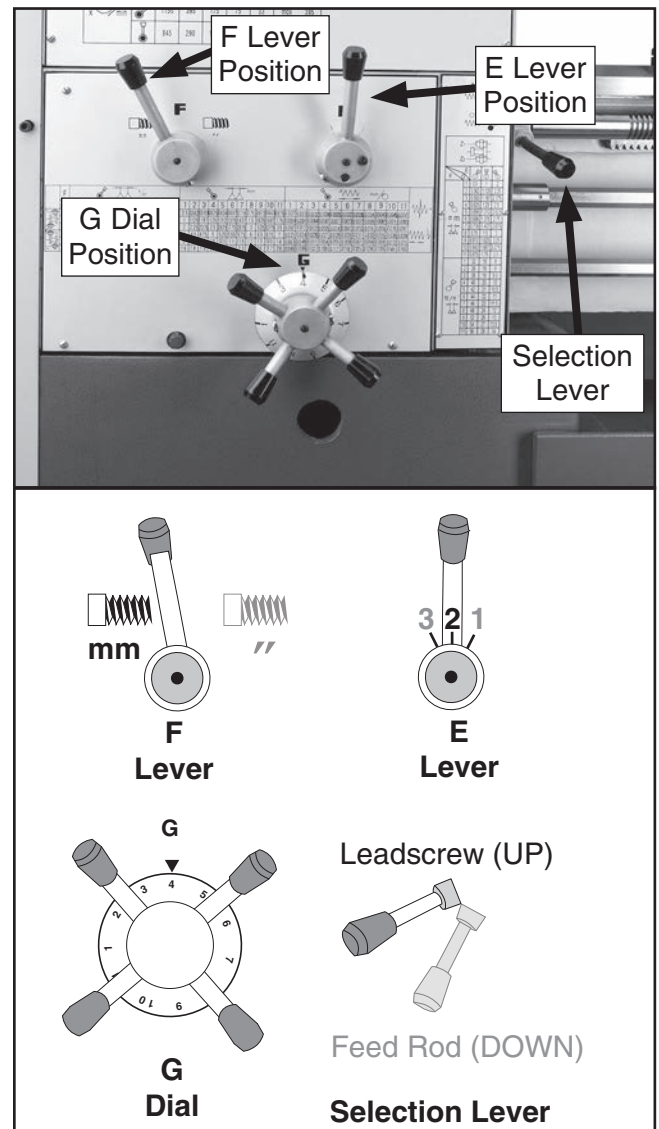

Figure 99. Lever and dial settings for 1.25 MP.
4. Position the gearbox levers and dials, as shown in Figure 99.